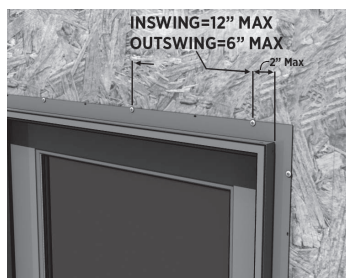

Figure 7
**1g) (Required)** You should see a nominal 1/8" gap between the door and frame on any non-hinged edge. If the gap varies, then the frame is not square. Shim and adjust as needed to achieve a square frame, then complete the nailfin fastening by placing fasteners in the provided nailing fin holes, spaced a maximum of 12" apart and 2" from the ends. (figure 7) **Refer to Step 2g for fastening Transom Gusset Plates.**